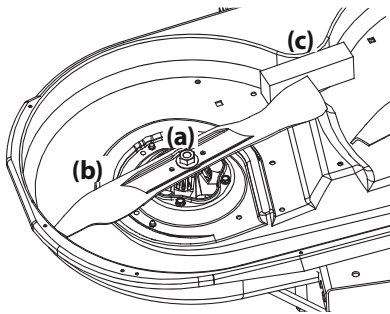

Figure 46
2. Use a $\frac{15}{16}$ " wrench to hold the hex nut on top of the spindle assembly when loosening the hex nut (a) securing the blade (b). A block of wood (c) may be placed between the deck housing and the cutting edge of the blade (b) to help in breaking loose the hex nut (a) securing the blade. See Figure 46.